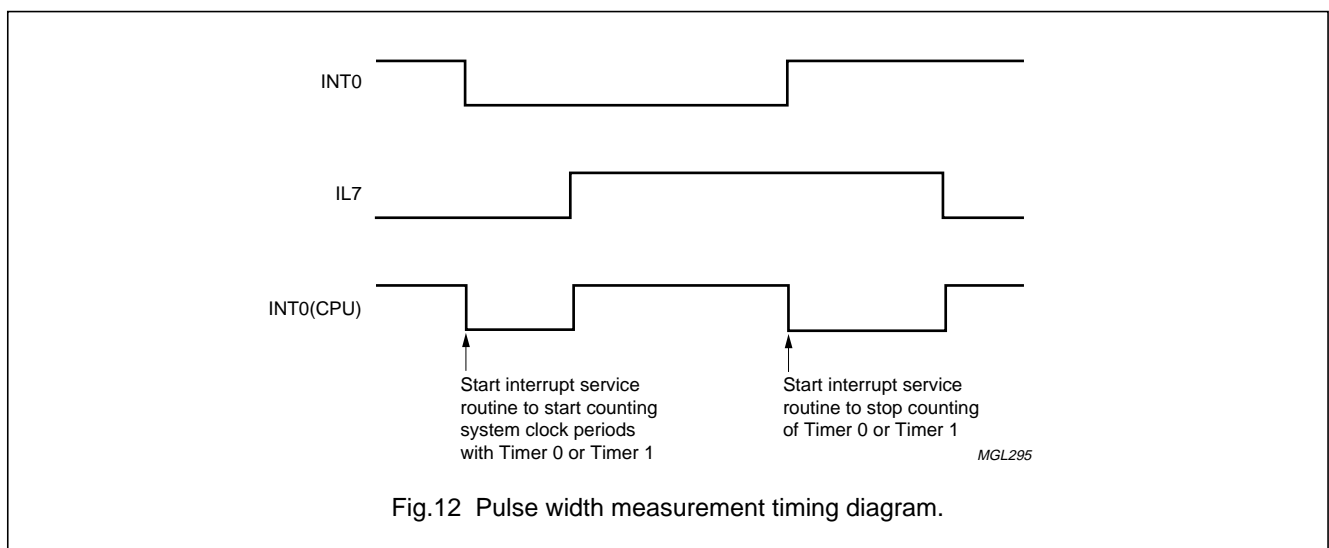

Fig.12 Pulse width measurement timing diagram.
2. IL7 must be programmed as shown in Fig.12.